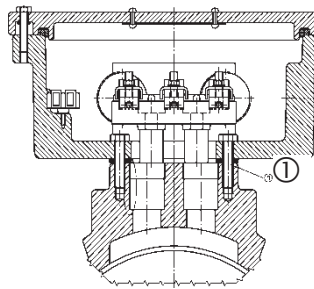
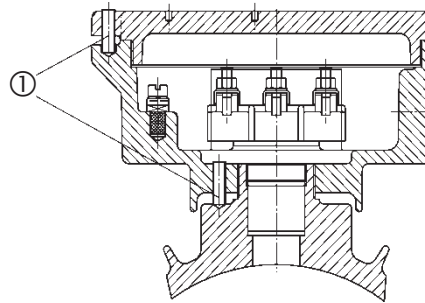

Figure 5: Terminal box with fastening screw ①
Figure 6: Terminal box with grub screw ①
Open the box by loosening the screws on the cover (Figure 5) or in version with grub screw (Figure 6) by turning the grub screw counter-clockwise and then loosening the tapped cover. Close the terminal box again after connecting the mains by following the same instructions in the opposite order.
- the four fastening screws (→ Figure 5) or
- the anti-rotation pins by means of the grub screw (→ Figure 6).The screws are secured using anaerobic adhesive. This can be released with a hammer blow to the head of the screw.
Terminal boxes fastened as per Fig. 6 are to be turned counter-clockwise by a maximum of one turn away from the thread end stop.